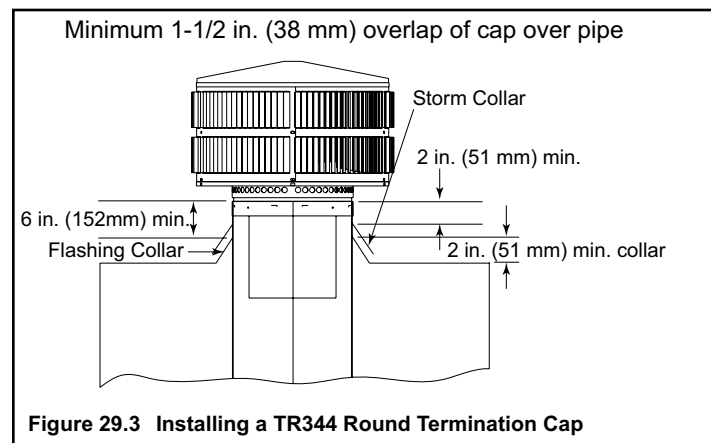

Figure 29.3 Installing a TR344 Round Termination Cap
- Install the chimney sections up through the chase enclosure. When using a Round Termination Cap, the uppermost top section of pipe must extend 6 in. (152 mm) above the top of the flashing collar to allow installation of the storm collar and termination cap. See Figure 29.3.